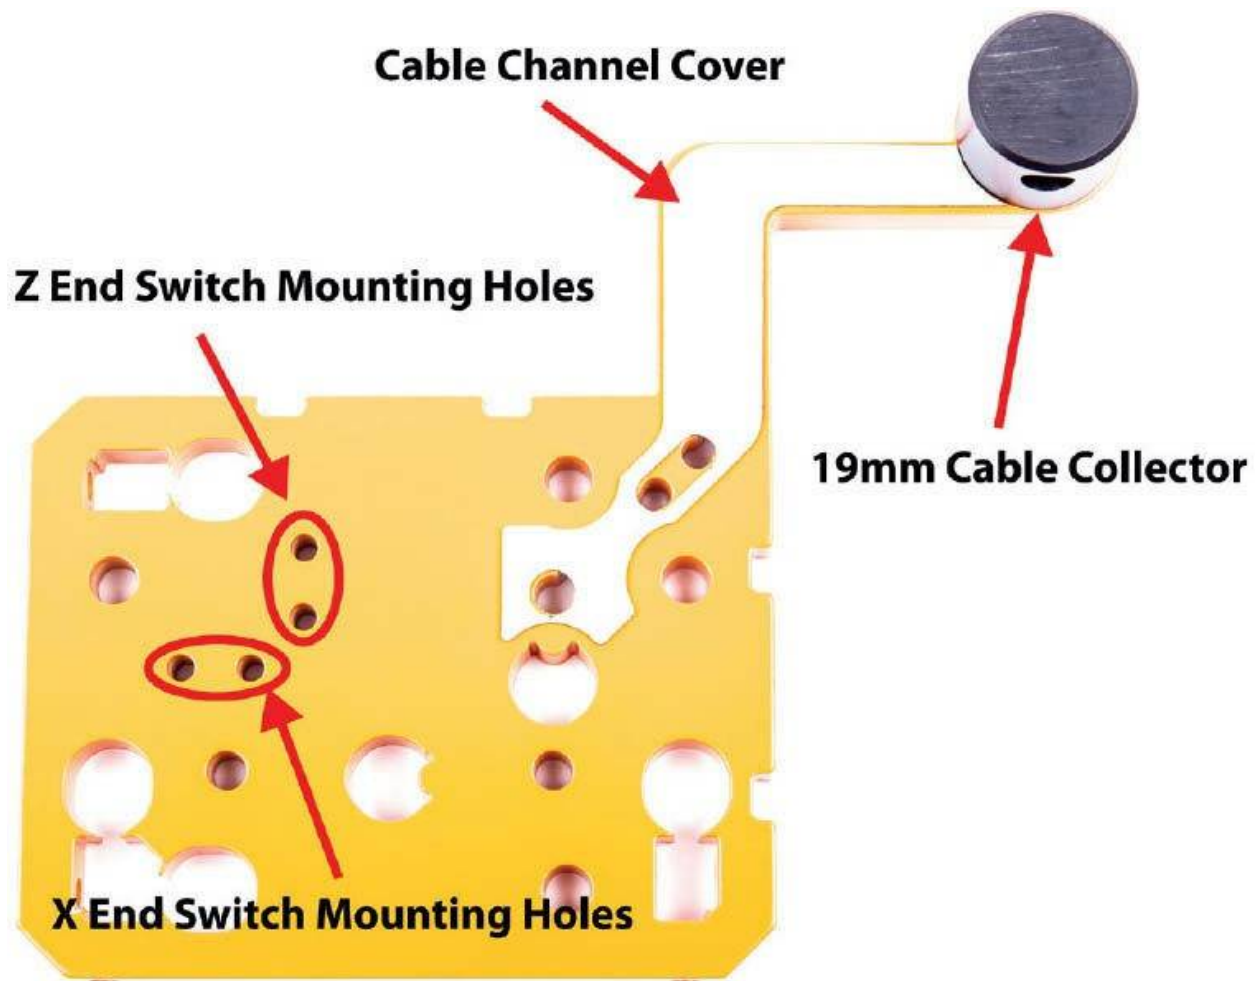
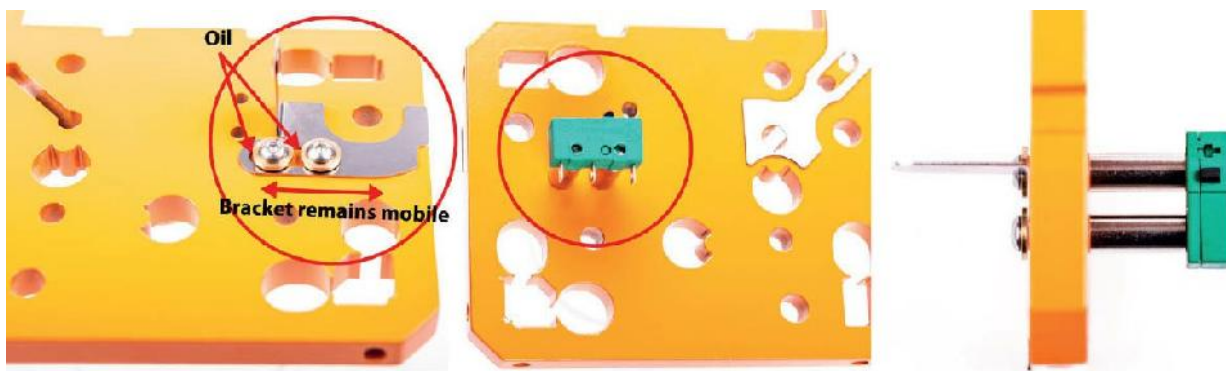

Fig. 2.6 The X-Z connector
Fig. 2.7 Mounting the X end switch
1. Fix the 20 mm cable collector to the large hole in the X-Z connector and glue the cable channel cover to it as shown in figure 2.6. Make sure all holes in the X-Z connector remain uncovered. The following steps use the cable collector to identify the position and orientation of the connector.
3. Thread the bolts through the shiny end switch bracket and then the X-Z connector as shown in figure 2.7. The correct holes are shown in figure 2.6.
5. Attach an end switch to the bolts as shown in figure 2.7 and tighten the bolts. Make sure the black pins on the switch are
6. Add a drop of sewing machine oil to the two places marked in figure 2.7 and move the end switch bracket back and forth a couple of times to spread the oil. Make sure that no oil gets on the other parts and clean up any excess if necessary.
7. Now mount the Z end switch. This is done exactly the same way as previously described but this time using the remaining (matt) bracket to mount the switch on the other side of the connector. The correct holes and the position of the bracket are shown in figures 2.6 and 2.8.